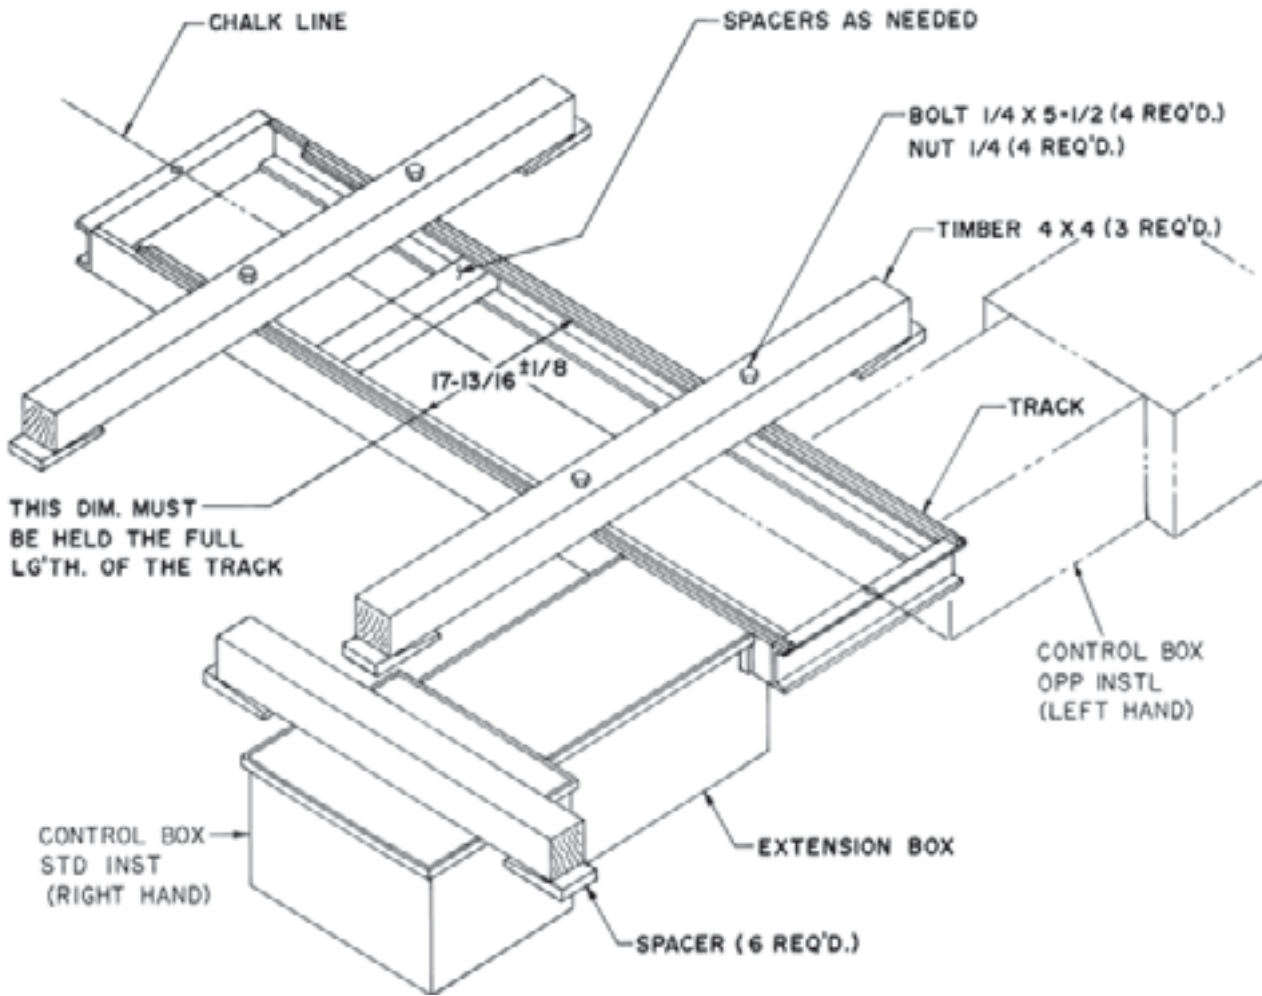

Fig. 3
LOCATION OF THE LIFT CONTROL VALVES per Fig. 3 (Page 8), Fig. 13 (Page 20), and Fig. 15 (Page 21). Controls should be located to give the operator a clear unobstructed view of the front and rear pistons of the lift.
- B. Place wooden spacers in the track to maintain 17-13/16"±1/8" between the sides of the track. This 17-13/16"±1/8" dimension must be within tolerance specified for the full length of the track as shown in Figure 3.
- C. Attach two 4" x 4" timbers across the top of the track and one across the control box as shown in Fig. 3. Place into correct position over excavation. 1/8" holes are provided in front and rear of track as reference points for the fore-and-aft center line. Shim under each end of the timber so that the top flange surface of the track, the cover of the extension box and control box are flush and level with the finished floor.